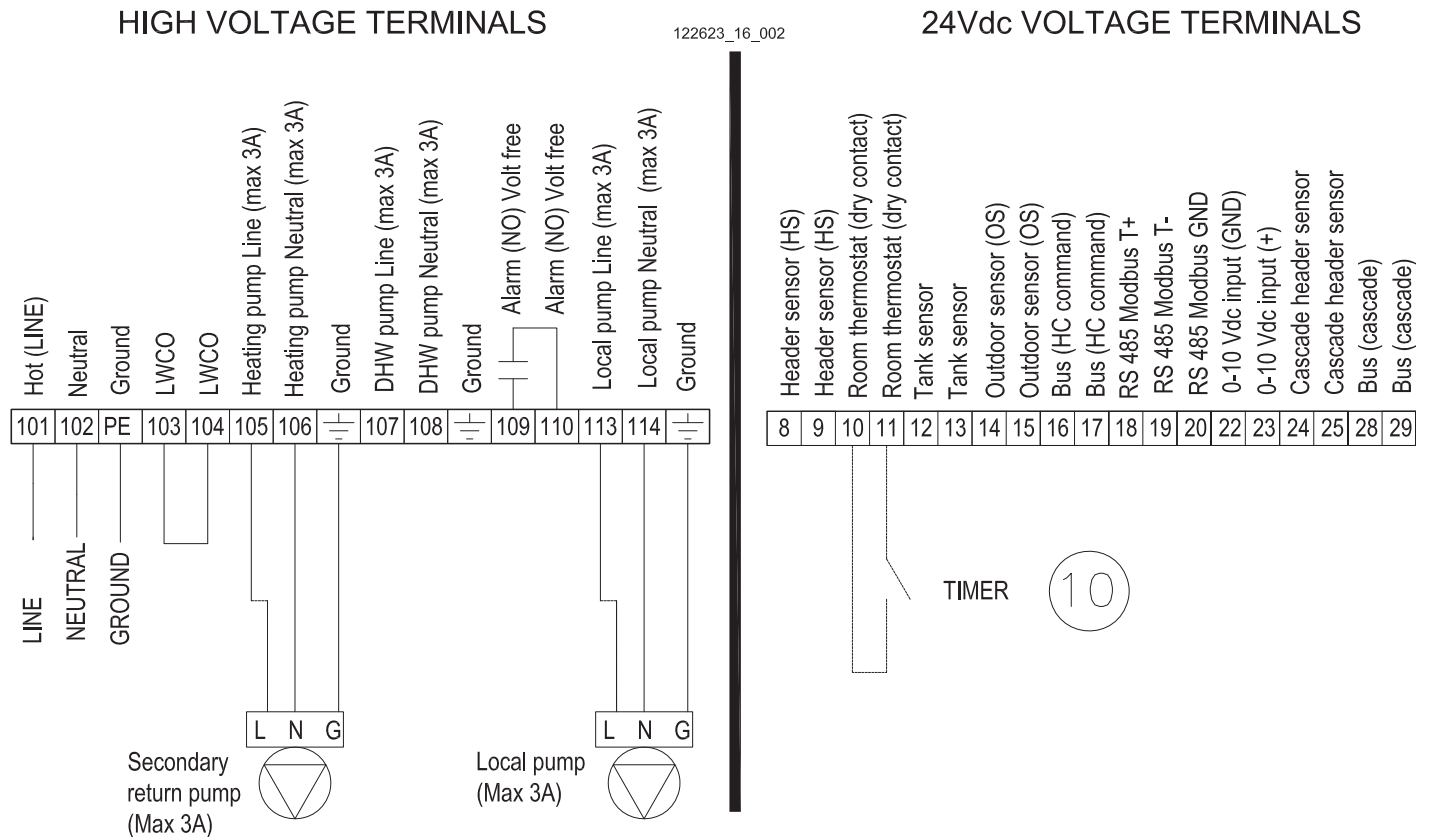

Figure 9-4 - Electrical customer connection for appliance without storage tank
- 2.- The pump (Local pump) must be connected to terminals “113” and “114” (See Figure 9-4) (a field supplied pump relay must be installed if the pump current draw is greater than 3 amps);
- 3.- A secondary return pump must be connected to terminals 105 and 106 (See Figure 9-4);
- 4.- A timer to control the secondary return pump and to gives the call for heat to the appliance, must be connected to terminals 10 and 11 of Figure 9-4.